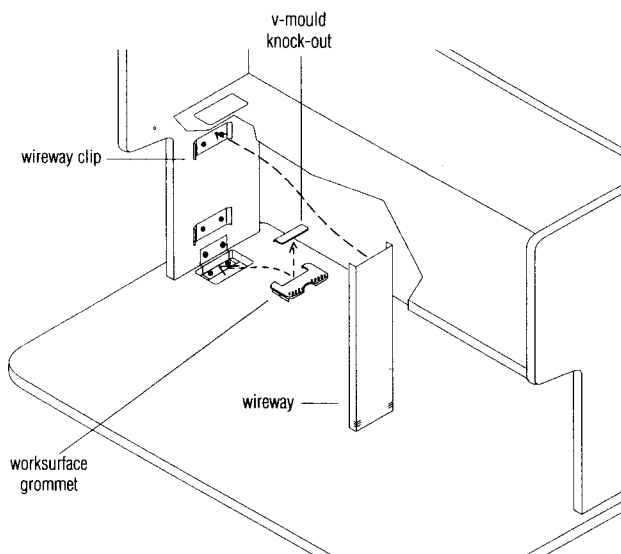

Figure 3
10. With worksurface grommet in hand, break off v-mould knock-out on grommet to accommodate wireway (to be installed next step). Attach worksurface grommets into the two openings on the top of the worksurface (Figure 3).
11. Snap the wireways onto the wireway clips that were mounted to the shelf side in step 9 (Figure 3).